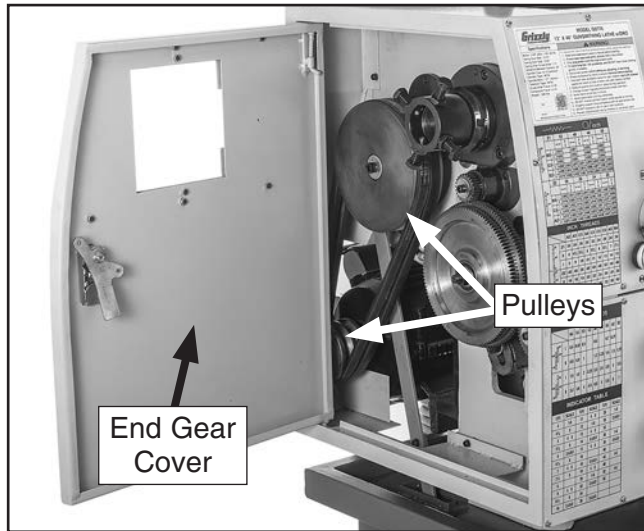

Figure 18. Location of end gear cover and pulleys.
1. Open end gear cover to expose pulleys (see **Figure 18**).